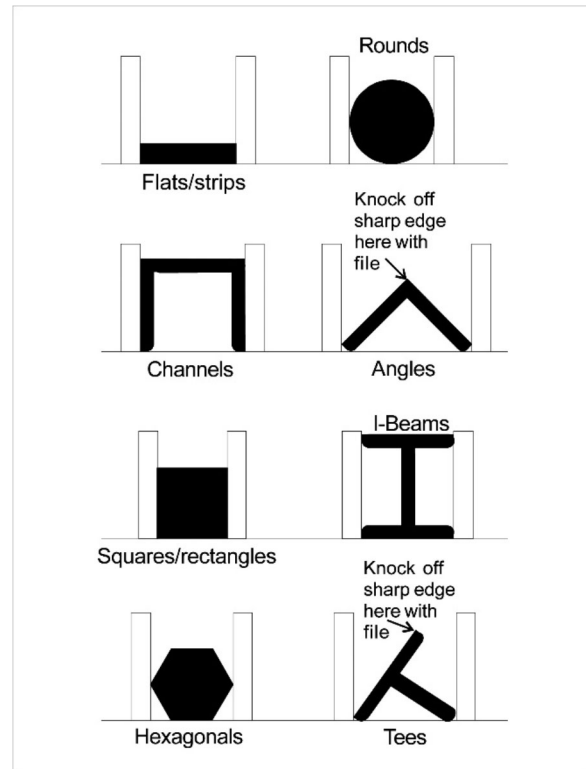

Figure 8-1: clamping positions
5. Position workpiece in vise and clamp it securely. Workpiece should be fitted directly between the jaws without adding other objects. When workpiece is profiled section, flat piece or special shape, refer to examples in Figure 8-1 for proper clamping positions.